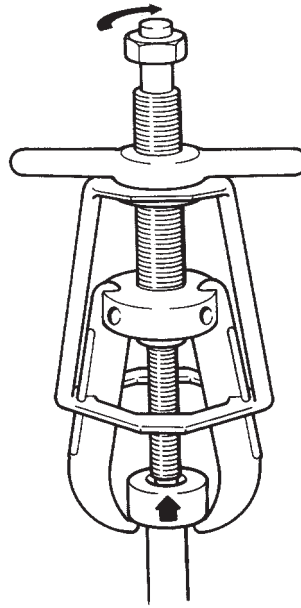

Figure 4
6. Make sure that the center of the puller is aligned with the center of the shaft of the component to be pulled. Using hand tools only, tighten the center bolt to pull the component off of its shaft. (See Figure 4.)